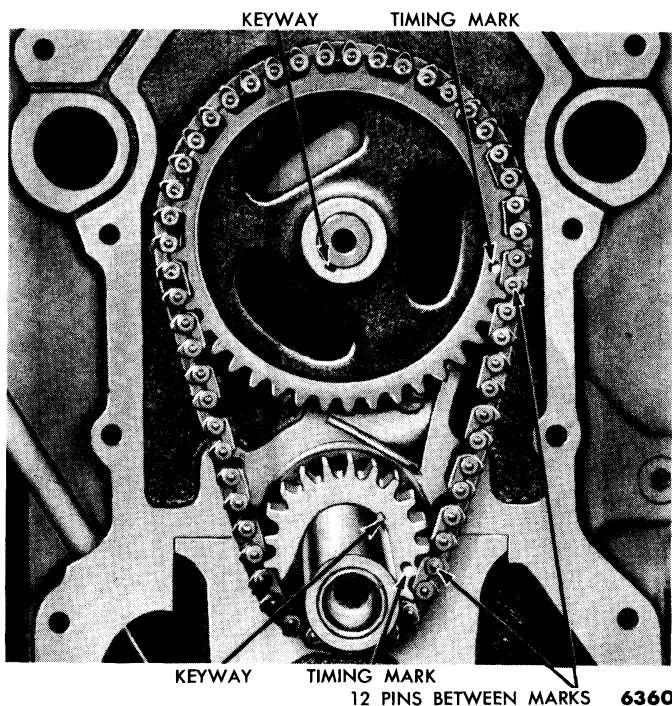
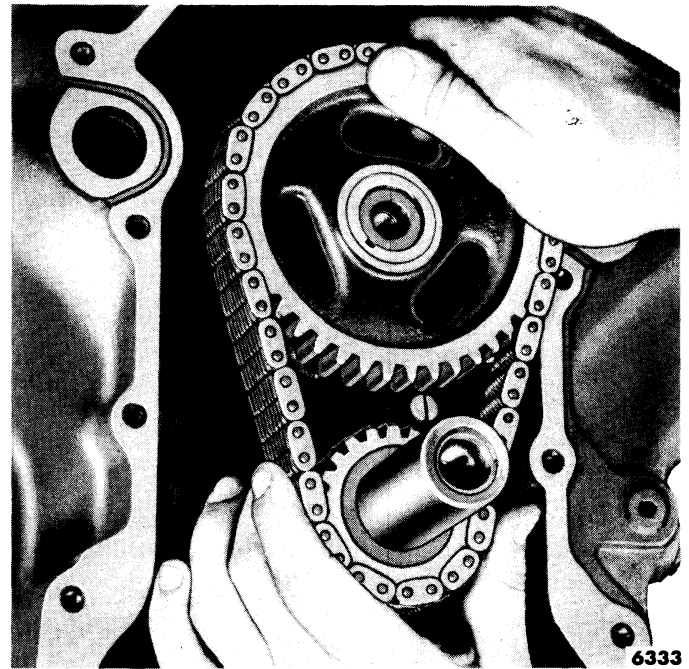

Fig. 22—Aligning Timing Marks
Fig. 23—Removing or Installing Timing Chain and Sprockets
Crank the engine until the timing marks on the sprockets and chain are positioned as shown in fig. 22. Slide both sprockets and the timing chain forward, and
remove the sprockets and the timing chain as an assembly (fig. 23).
(2) **INSTALLATION.** Place the keys in position on the crankshaft and camshaft. Position the sprockets and timing chain on the camshaft and crankshaft (fig. 23). Be sure the timing marks on the sprockets and chain are positioned as shown in fig. 22. There are 12 timing chain link pins between the timing marks on the sprockets.
Crank the engine until the timing marks on the sprockets and chain are positioned as shown in fig. 22. Remove the distributor cap, and scribe a line on the distributor housing and cylinder block to mark the position of the rotor and distributor housing for installation, then remove the distributor.